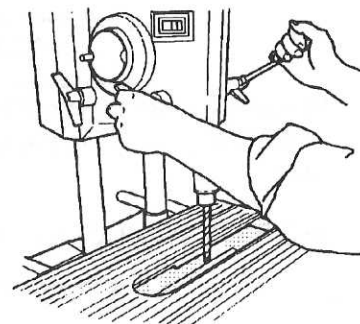

Fig. B-54
12. With the drill bit above the table opening, use the quill feed to extend the bit 1/2" into the table opening, as in Fig. B-54.